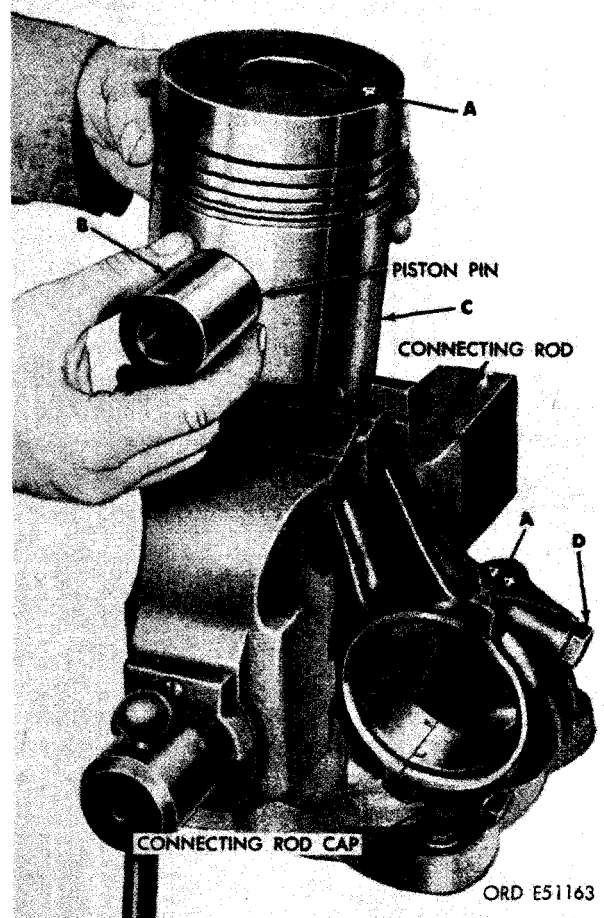

FIGURE 342. DISCONNECTING OR CONNECTING PISTON AT CONNECTING ROD.
- (2) Figure 342. (A) Mark piston to identify it with the rod from which it is removed. The pistons and rods must be kept together for installation. (B) Remove piston pin from piston and connecting rod bore. (C) Remove piston from connecting rod. (D) Remove two connecting rod bolts and remove connecting rod cap and bearing halves.